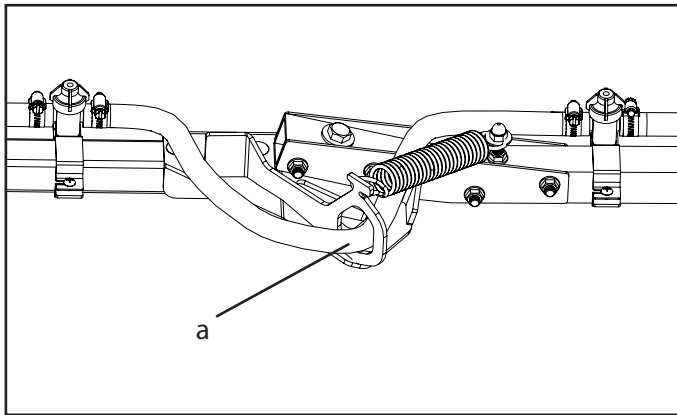
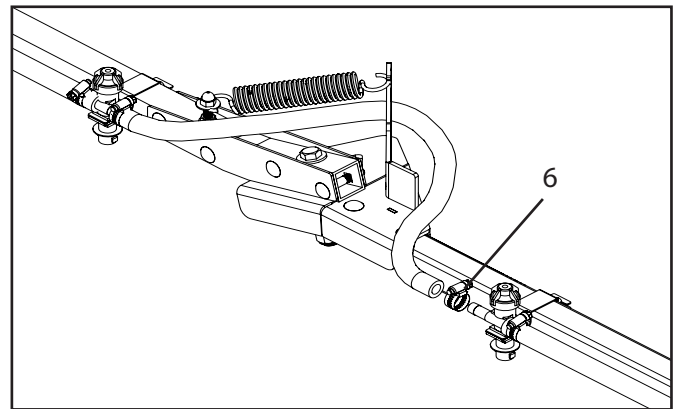

Figure 9: Spray hose routing
Figure 8: Spray hose installation
10. Connect the wing hoses to the center frame nozzle bodies as seen in figure 8 & 9. Take the outer wing hose and slide a hose clamp (6) (Figure 1 & 8, pg 5 & 7) onto it. Route the outer wing hose through the hose guide hole on the hinge (a) (Figure 9, pg 7). Then push the hose onto the center frame nozzle body as shown in figure 8. Note: Exerting too much force onto the nozzle bodies when installing the hoses could potentially cause them to break.